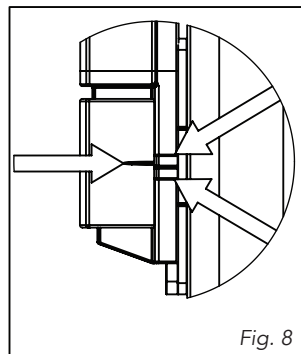

Fig. 8
- Position the mark on the keeper assembly between the two outer marks on the latch body (Fig.8). The ideal location is closer to the top mark.